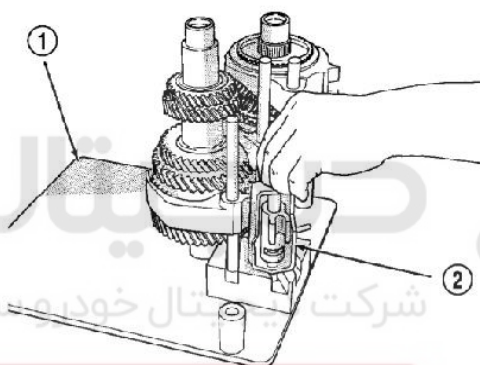

Figure 3-58 Disassembly of shift block
(23) Remove the shift block assembly from the plate jig (Figure 3-58).